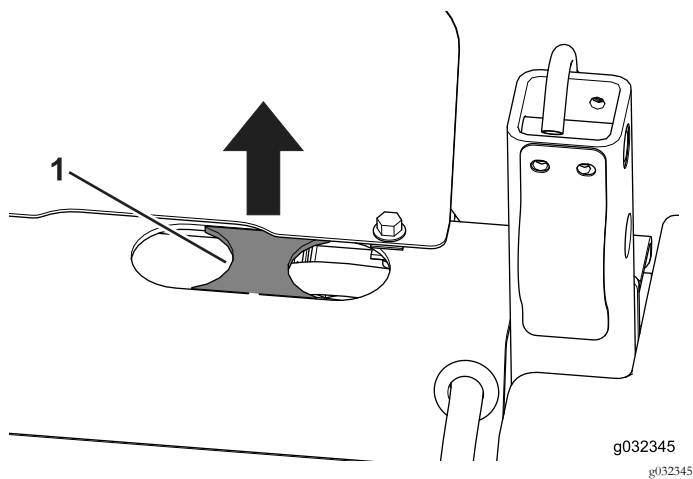

Figure 23
2. Remove the punch out located between the 2 holes if it is present (Figure 23).